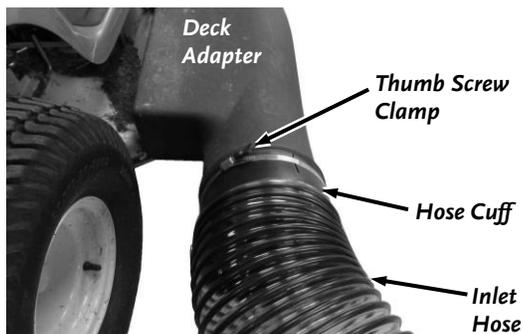

Figure 68
2. Slide the Hose Cuff over the Deck Adapter (**Figure 68**).
- f. Reinstall the Cuff onto the Hose and tighten the Hose Clamp. Install the Cuff to the Deck Adapter (**Figure 68**).